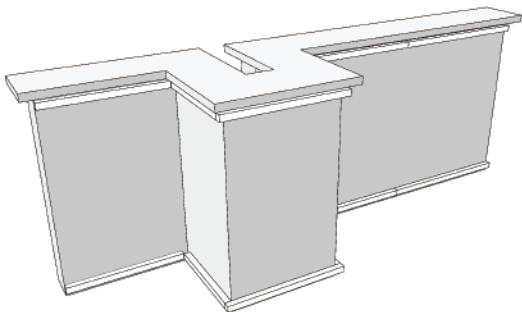

Fig18-1
1. Install joist of HLYC-019F, HLYC-020F, HLYC-021F. As shown in Figure 18-1: